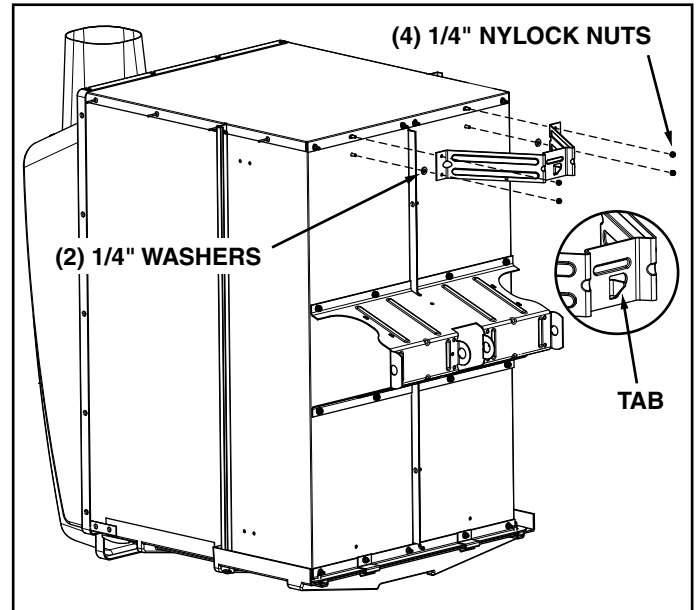

FIGURE 2
3. Attach the latch stand bracket (turned as shown) using four 1/4" nylock nuts and two 1/4" washers. Install the washers as shims underneath the latch stand bracket, on the two rear studs. See figure 2.